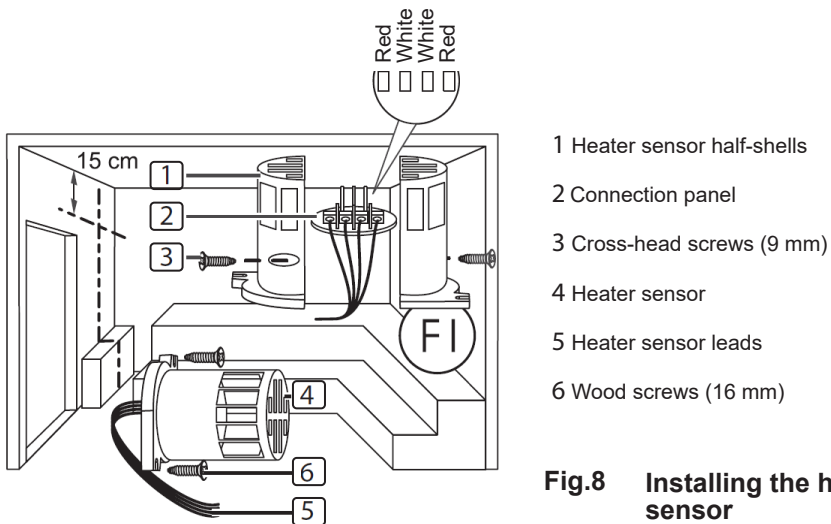

Fig.8 Installing the heater sensor
To install the heater sensor, perform the following steps (see **Fig.8**):
3. Connect the four connections for the heater sensor cable 5 in accordance with the **Fig.8**.
4. Place the connection panel 2 crossways (as shown in **Fig.8**) in the heater sensor half-shells.